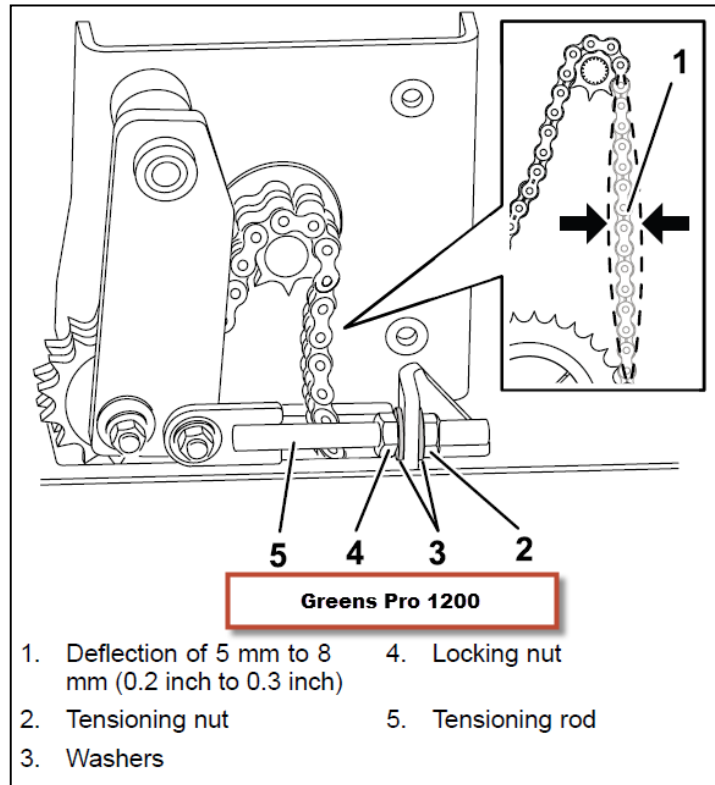
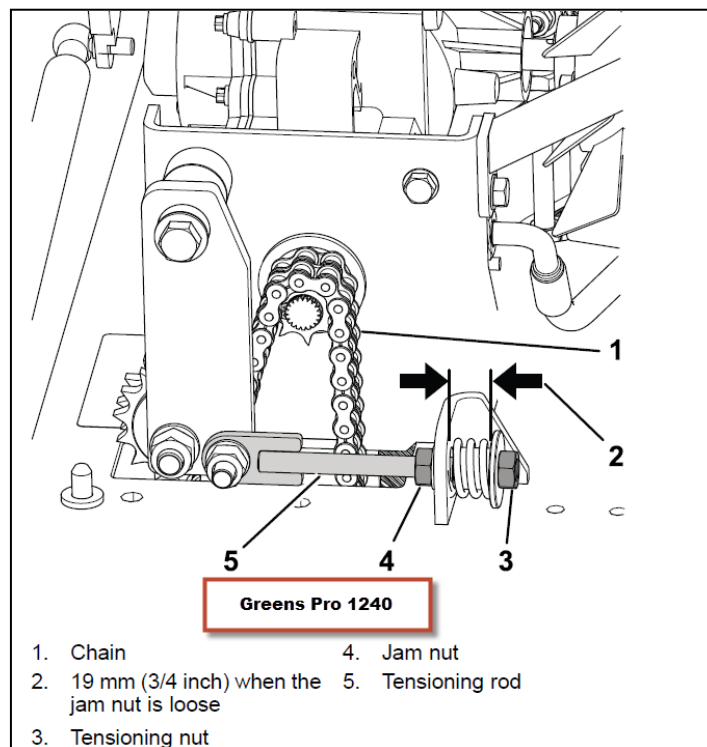

Figure 1
Figure 2
- **Inspect**. The chain tension must be inspected daily for the correct deflection as specified in the maintenance section of the Operators Manual. The tension inspection process is different for the Greens Pro 1200 (Fig. 1) and the Greens Pro 1240 . (Fig. 2)